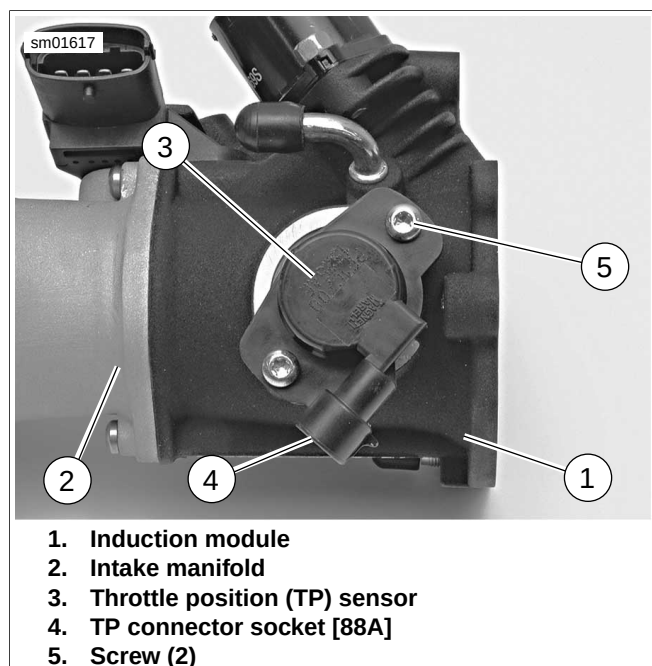

Figure 4-28. Throttle Position (TP) Sensor Removal (XL Models)
3. See Figure 4-28. Unplug TP sensor harness connector [88B] from connector socket [88A] (4). Cover both connectors with tape.
4. Remove two screws (5) and detach TP sensor (3) from induction module (1).
- See Figure 4-28. Note orientation of TP sensor (3) relative to induction module (1) body; connector socket is at